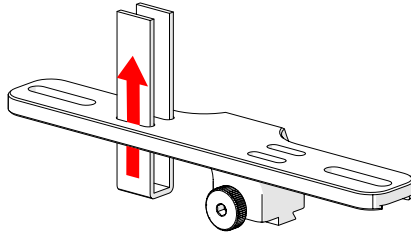

Fig. 294 - Insert velcro straps
1. Slide the velcro strap through the bracket's holes (*Fig. 294*).